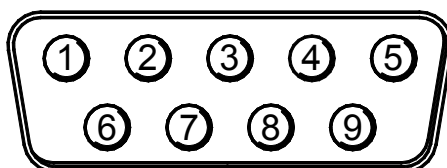

Figure 5. Wire View of RS-232 (DB-9) Male Plug
Pin # 5 (GND) on the serial port shall be grounded. If a standard 9-pin serial cable is to be cut instead, the (RX) wire is typically RED and the (GND) wire is typically GREEN. However, this should be confirmed with a continuity tester before attempting. (Figure 5)